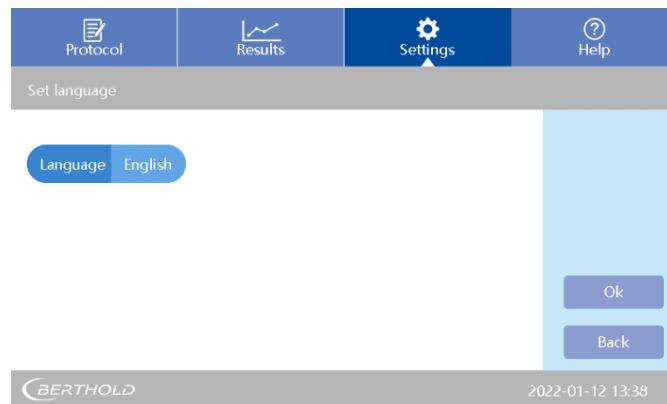

Fig 47: Set Language
1. Press <Language> in the [Settings] tab page. See Fig 47.